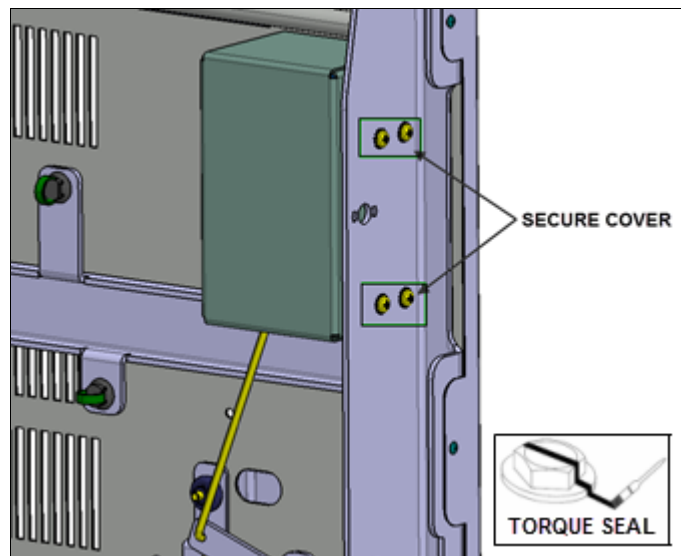

FIG.14 COVER REINSTALLATION
14. Slide the cover back into position over the cylinder lock mechanism and secure it to the door frame using the 4 Phillips head screws and locks (apply a stripe of tamper proof indicator paint (torque seal) to the screw heads (Fig.14)).